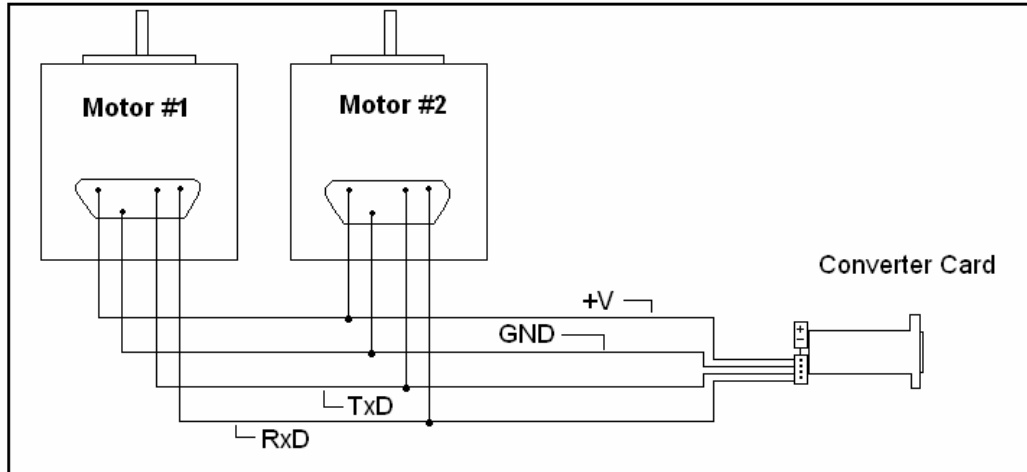

Figure 5: Connecting Multiple IMC17s
- Figure 5 shows a basic schematic of the connections between two motors and the converter card